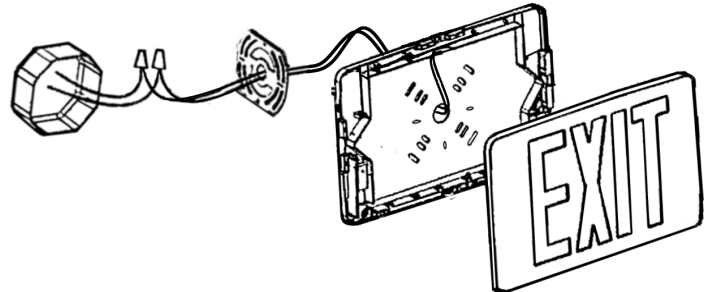

Figure 6 - Back Mount
- Run the wires through the mounting bracket as seen in "Figure 6 - Back Mount" below.